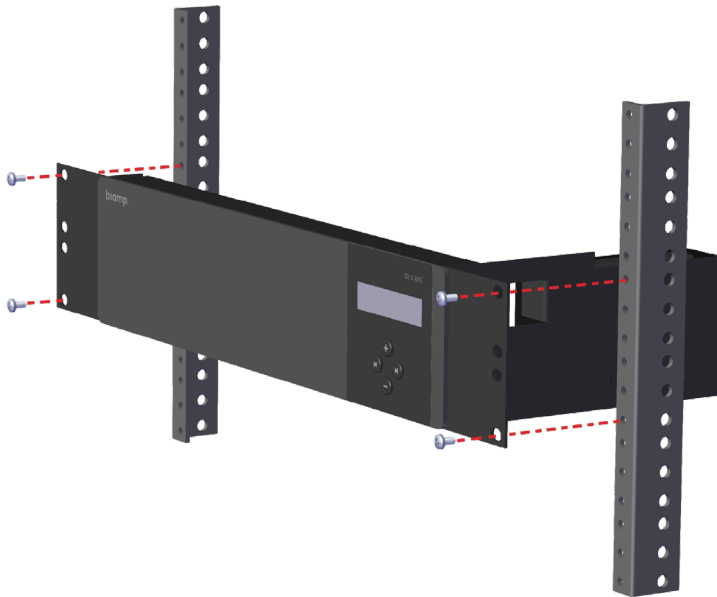

Figure 6. Attach the controller to the rack
3. Secure the Qt X device to the rack via the rack ears as shown in Figure 6.